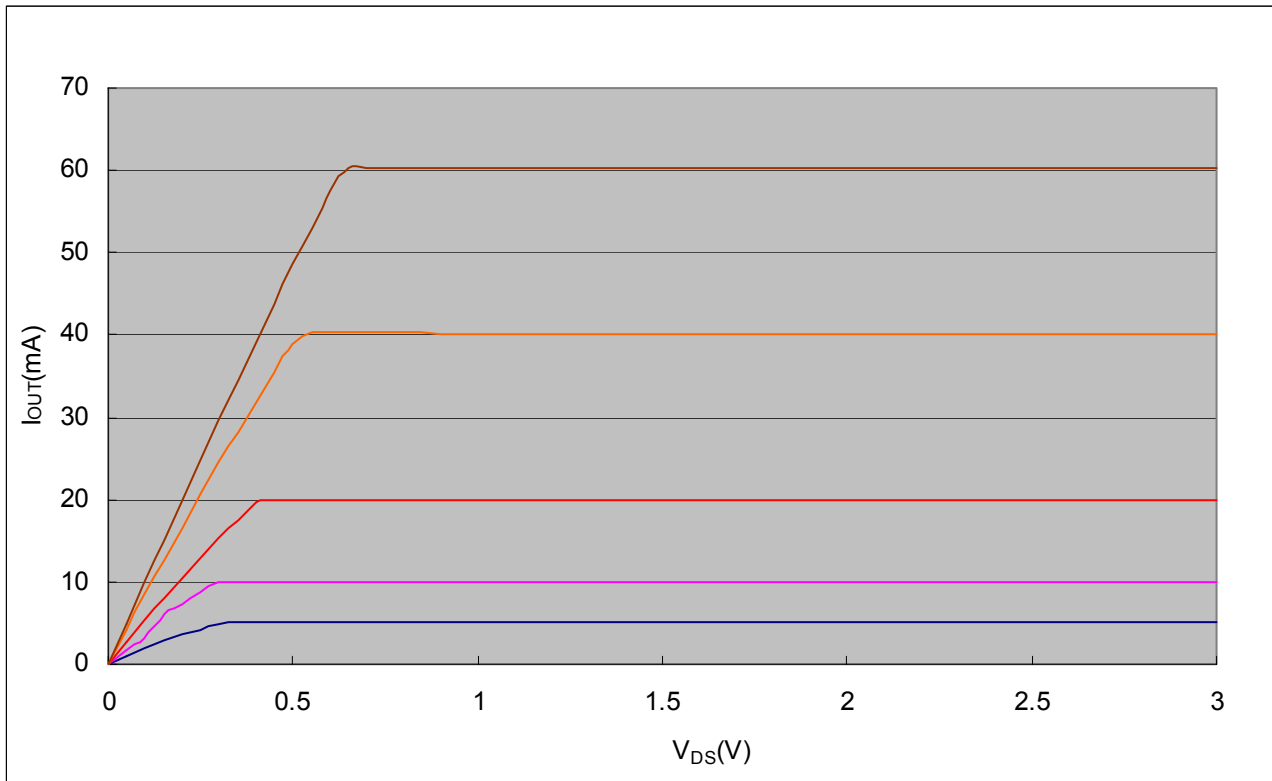

Figure 10
- 2) In addition, the current characteristic of output stage is flat and users can refer to Figure 10. The output current can be kept constant regardless of the variations of LED forward voltages ( $V_F$ ). This guarantees LED to be performed on the same brightness as user's specification.